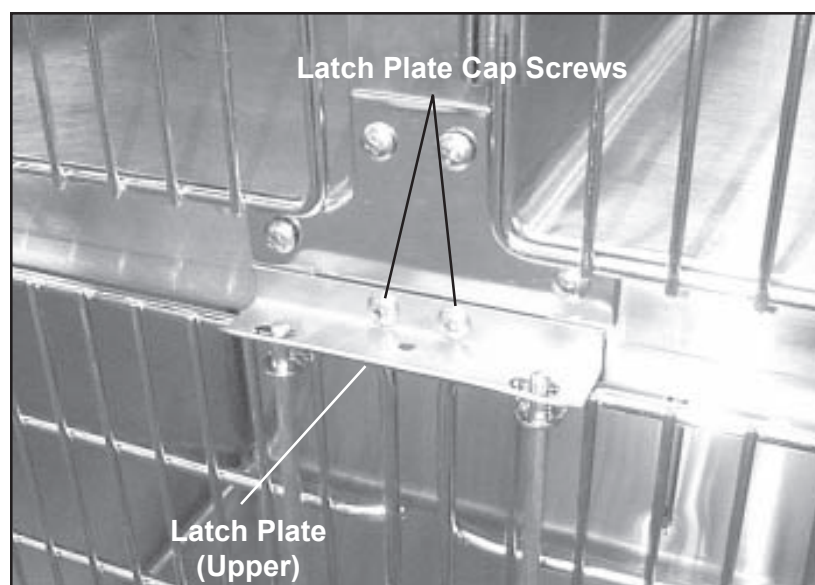

Figure 57. Removing the Latch Plate.
3. With a Phillips screwdriver, remove the two cap screws that hold the latch plate to the cage, and remove the plate (Figure 57).